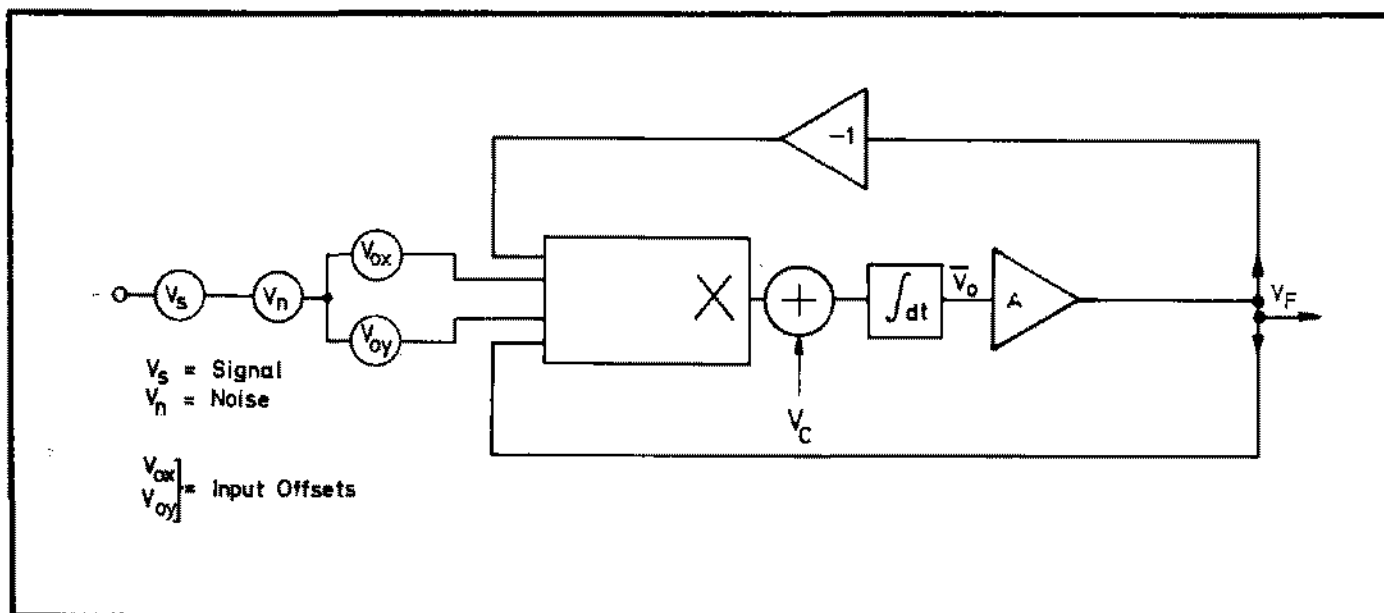

Fig. 5.9 Loop Block Diagram
5.A.1.1 The block diagram of the measuring circuit is shown in Fig. 5.9. The voltages  $V_s$  and  $V_n$  represent the signal and noise inputs from the preceding circuit, while  $V_{ox}$  and  $V_{oy}$  are the input offset voltages occurring at the multiplier inputs. The input  $V_c$  is a voltage generated during the auto-zero period and injected into the circuit during the following measurement period.